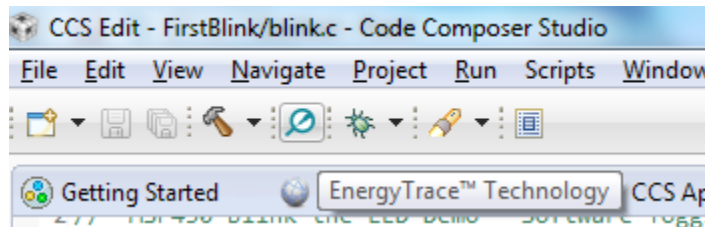

Figure 5. EnergyTrace Button in the Toolbar Menu
2. Press the EnergyTrace Technology button in the toolbar menu (see Figure 5). You don't need to build or start debug session.